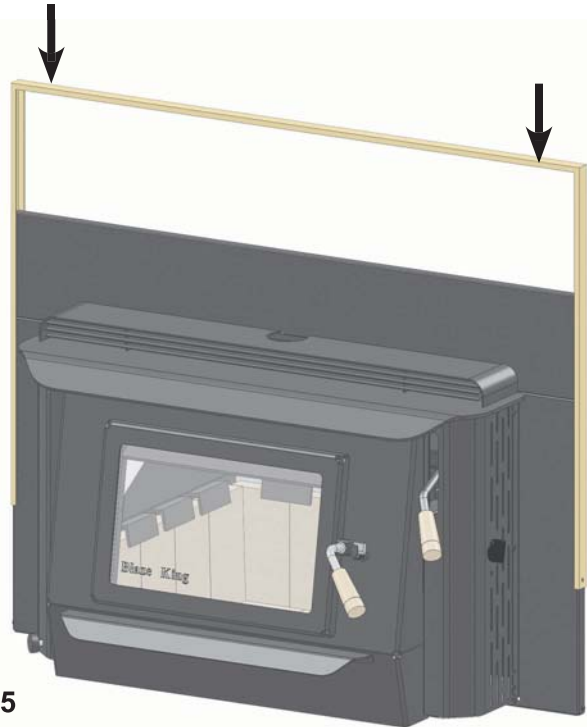

Fig. 5
7. Hold the shroud top panel in place and slide the trim down over the shroud sides and top (see **Fig. 5**).